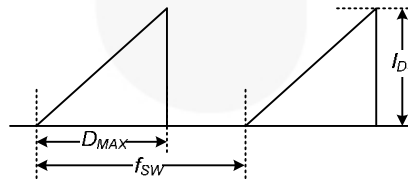

Figure 4. Repetitive Peak Switching Current
6. Repetitive peak switching current when the inductive load is assumed: Limited by maximum duty (DMAX=0.73) and junction temperature (see Figure 4).